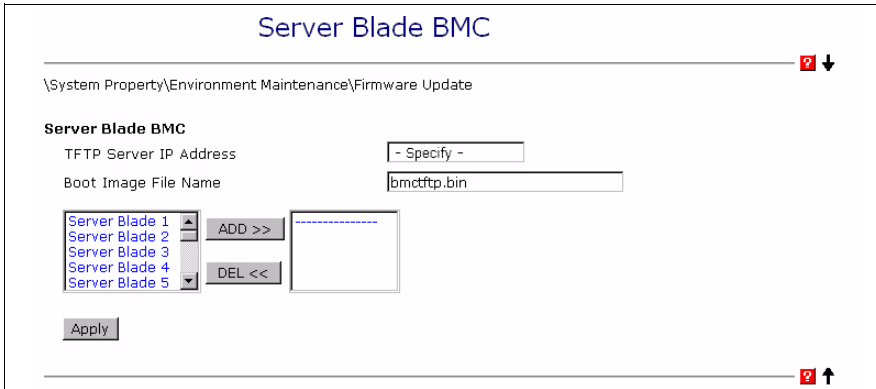

Figure 23: Updating the server blade BMC via the web interface
- ▶ Repeat the procedure to update the BMC firmware (see figure 23).